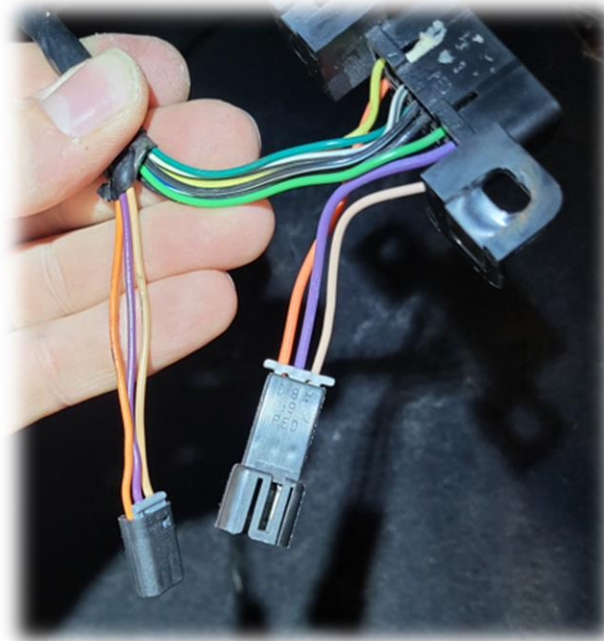

Figure 34
30. The wiring at the OBD2 port is now complete and should look like figure 34.